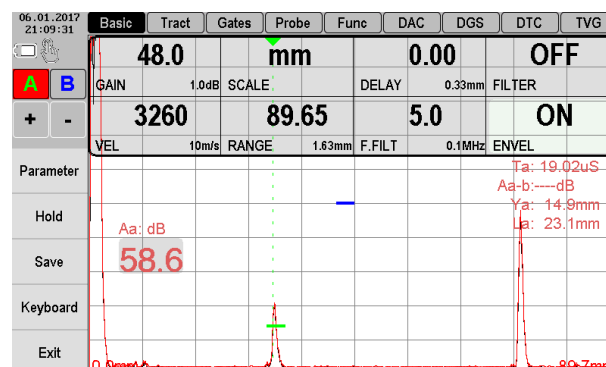

Figure 2.60 – Turning on the envelope curve mode
4. Turn on the envelope curve mode and find the maximum reflector amplitude (Figure 2.60).